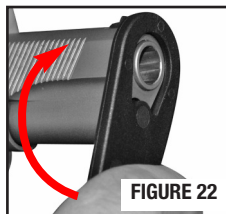

FIGURE 22
- Firmly grasp the pistol as shown (FIGURE 22) and use the wrench provided and depress the recoil spring retainer.